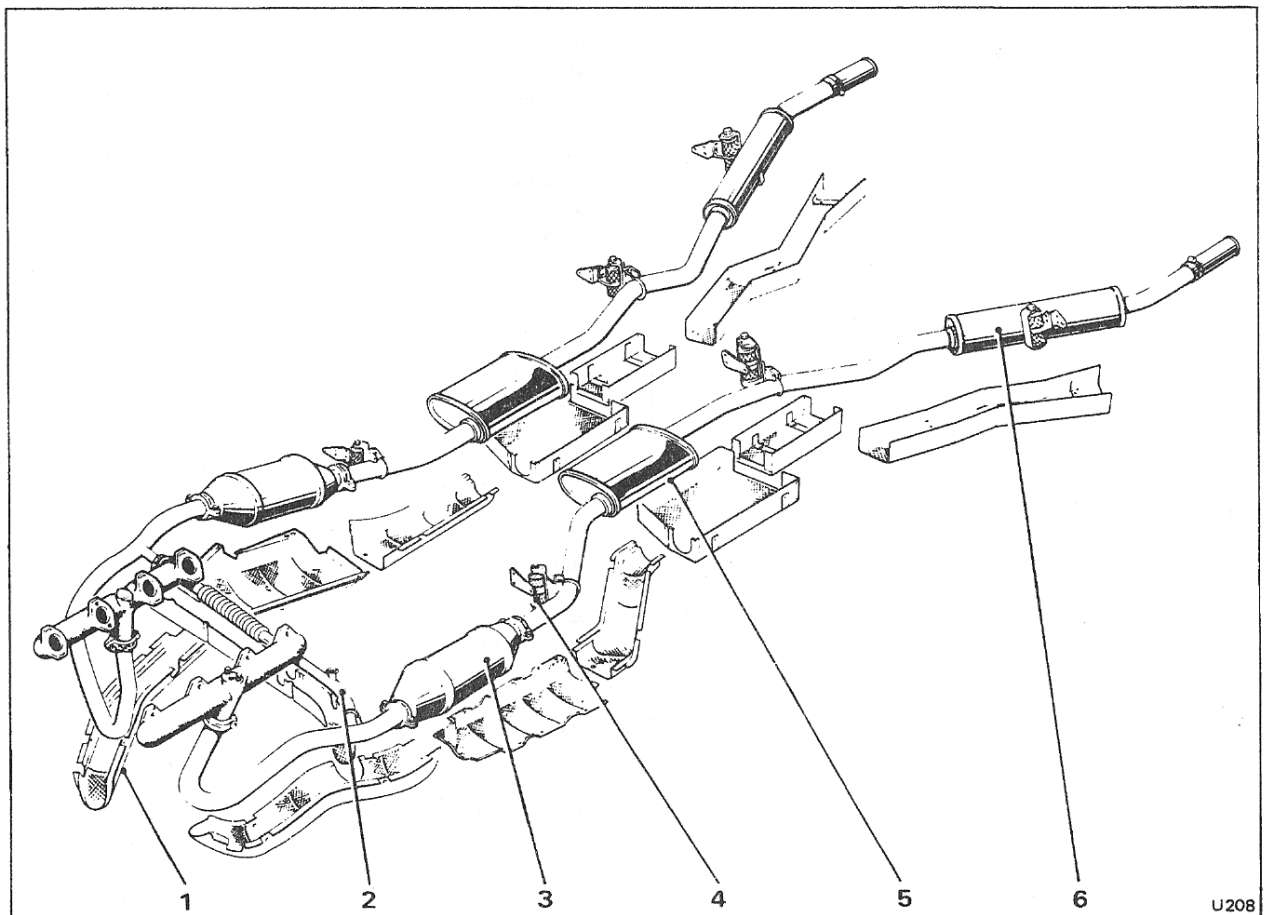

Fig. Q10 Exhaust system and grass-fire shields
The pipes and silencers form a six box twin exhaust system, with a separate tailpipe protruding from the rear of the car on each side (see Fig. Q10).
3. Detach each rear silencer and pipework at the sliding joint situated behind the intermediate silencer and the resilient metal mounts attached to the body under-frame (see Fig. Q10). Twist the pipe at the joint to break the seal and withdraw the rear section of the exhaust system.
5. Do not fully tighten any joints until the system has been fitted and manoeuvred to obtain the best run (free from possible fouls) with good joint alignment (see Fig. Q10).